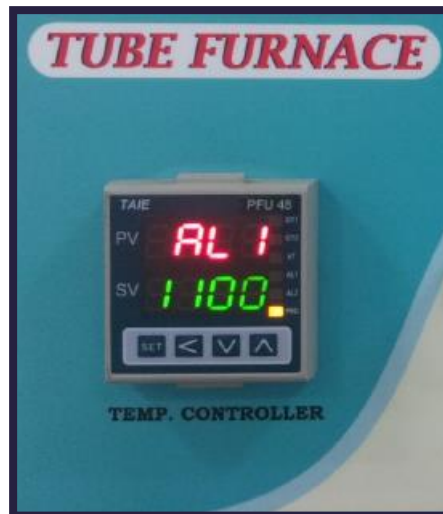

Figure. 12
10. Ensure that the maximum temperature in the recipe is NOT above 1100°C, which is the set maximum temperature of the furnace. This is incorporated by setting alarm at 1100°C in AL1 field (Figure. 12).